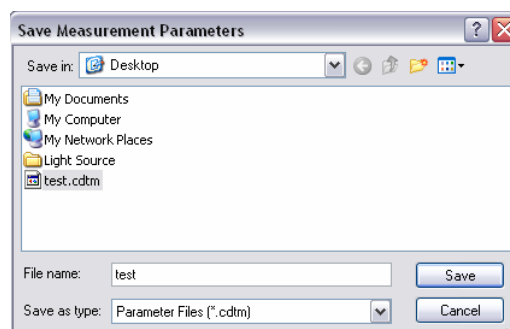
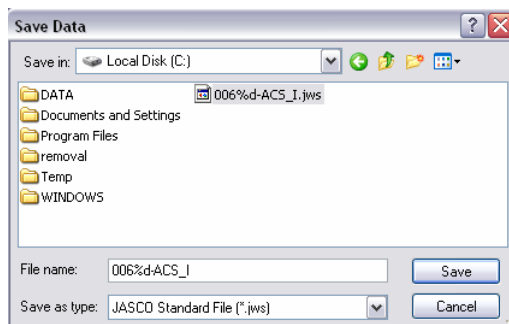

Figure. 6.7 [Saving Parameters] dialog box
Figure. 6.8 [Saving Data] dialog box
- (2) Select a location to save the spectrum clicking the arrow at extreme right in the [Save in] box. (In Fig. 6.7, “Desktop” is selected)
- (3) Input a filename into the [File Name] text box. The extension (after ".") need not be entered. The output file is saved as a .cdtm format file.
- (4) Click the <Save> button, and the spectrum is saved to disk. (File name of Fig. 6.7 is “test”)
- (2) Select a location to save the data clicking the arrow at extreme right in the [Save in] box. (In Fig. 6.8, “Local Disk (C)” is selected)
- (3) Input a filename into the [File Name] text box. The extension (after ".") need not be entered. The output file is saved such as xxx.jws.
- (4) Clicking the <OK> button saves the spectrum to disk. (filename of Fig. 6.7 is “0.06%d-ACS\_I)
- (5) In the case that the [Cycle Times] was selected, “Cycle Times”= 3, for example, three data are memorized as xxx\_01.jws, xxx\_02.jws, and xxx\_03.jws.